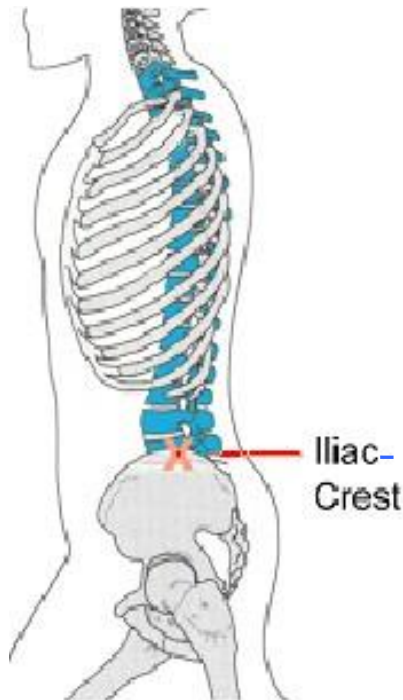

Figure 7 – Iliac Crest Location
6. Using a thumb or forefinger, have the individual locate the top of his/her iliac crest. Verify this location, Figures 7 and 8.
7. Using the Iliac Crest Windows, Figure 2-F, move the Jig up or down until the top of the iliac crest, Figures 7 and 8, is at the top edge of the Iliac Crest Window, Figure 2-F.
- b) top of iliac crest touches top of Iliac Crest Window, Figures 7 and 8.